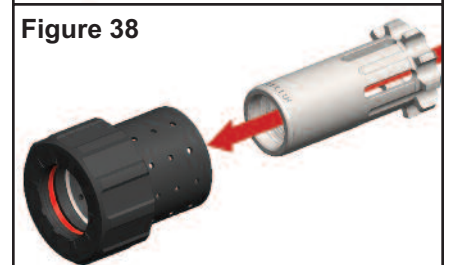

Figure 38
2. Insert the piston into the piston housing assembly. See Figure 38.